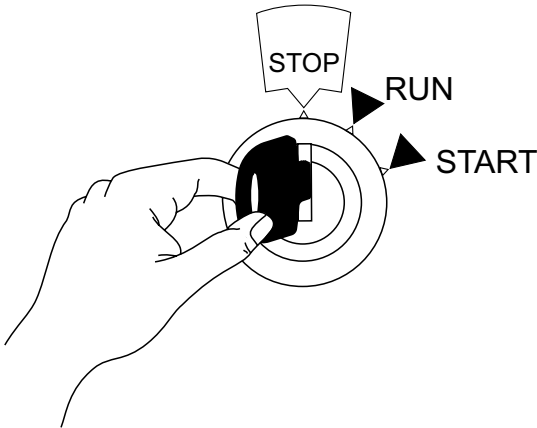

Figure 58. Starter Switch (Stop Position)
- Place the ignition key (Figure 58) in the **STOP** position.